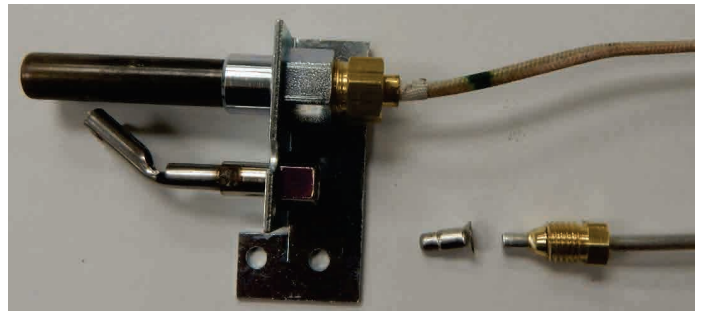

Figure 4
7. Remove Pilot Orifice from pilot and replace with Propane Pilot Orifice marked 8 supplied in conversion kit. **See Figure 4.**